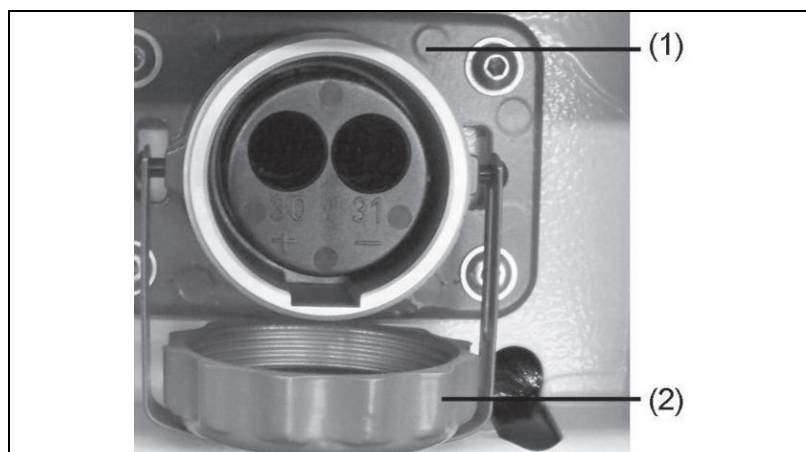

Figure 5-6: Connecting up an external start device
1. Unscrew cover (Figure 5-6-(2)) on the external start socket (Figure 5-6-(1)).